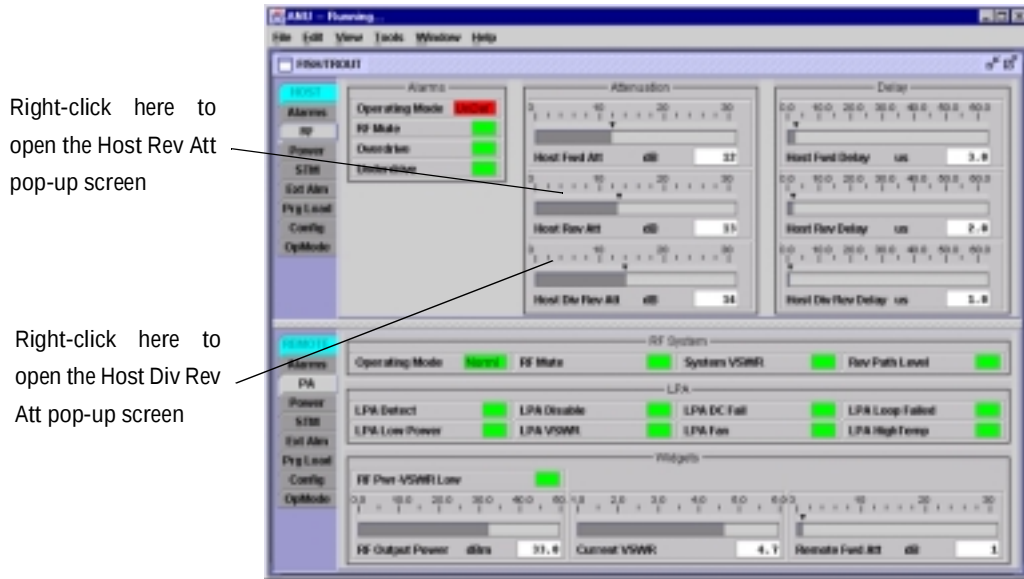
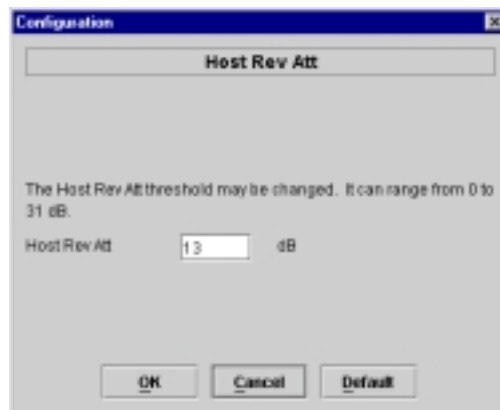

Figure 4-12. HOST RF Display
Figure 4-13. Host Rev Att Pop-Up Screen
4. Click on the HOST **RF** tab. The HOST **RF** display will open within the EMS main window as shown in Figure 4-12.
5. Right-click on the **Host Rev Att** section of the display (see Figure 4-12). The **Host Rev Att** pop-up screen will open as shown in Figure 4-13.
8. Repeat the process for the diversity reverse path by right-clicking on the **Host Div Rev Att** section (see Figure 4-12) and then entering the required attenuation value in the **Host Dive Rev Att** pop-up screen.